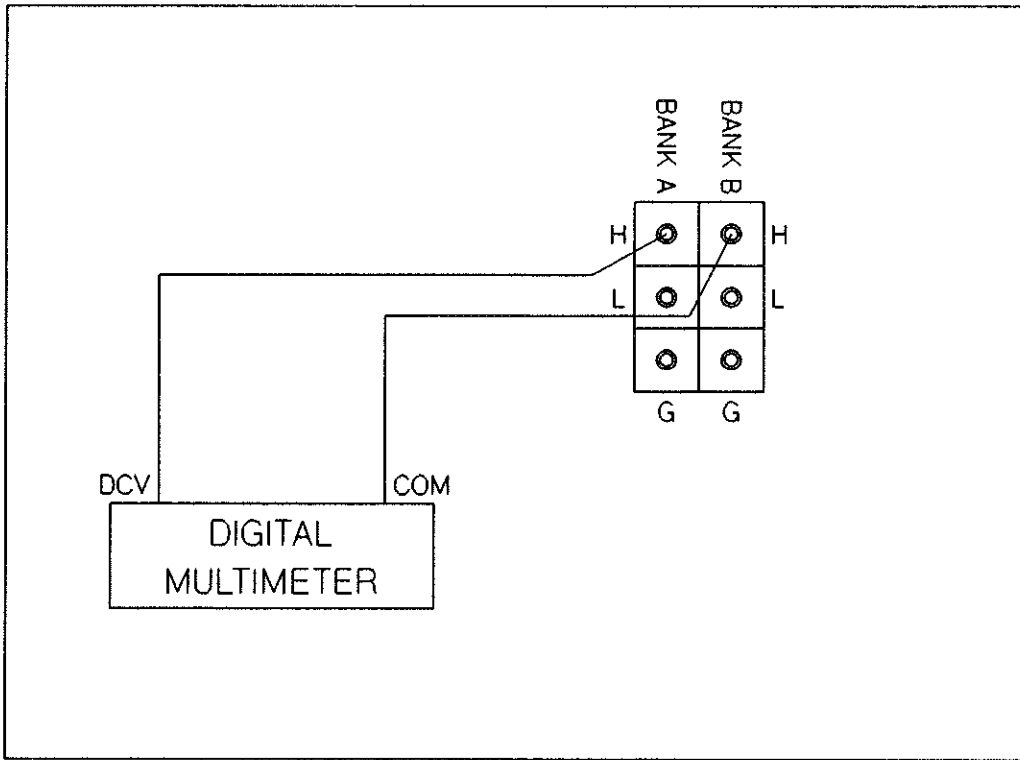

Figure 8-31 HP 44705A/H Sense Tree Thermal Offset
22. Connect the multimeter test leads between the Bank A HIGH common test point and the Bank B HIGH common test point on the test fixture as shown in Figure 8-31.
30. Connect the multimeter test leads between the Bank A HIGH common test point and the Bank B HIGH common test point as shown in Figure 8-31.